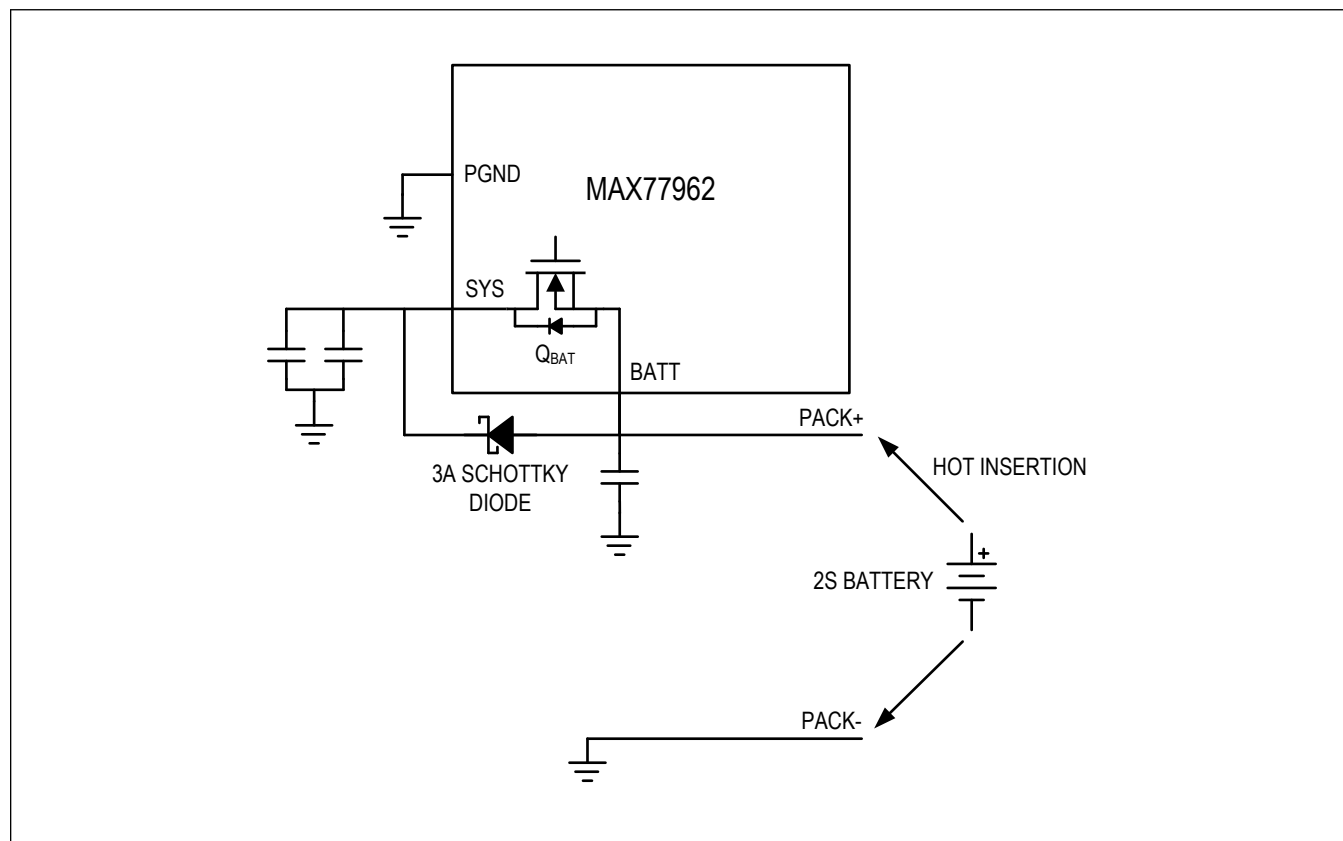

Figure 14. Battery Insertion Protection
- Include an external 3A Schottky diode from BATT to SYS. The Schottky diode has low forward voltage drop when conducting high current in the forward direction. It diverts the inrush current from BATT to SYS at battery insertion. The inrush current flowing through the Q_{BAT} FET is greatly reduced and therefore the IC is protected. See Figure 14.